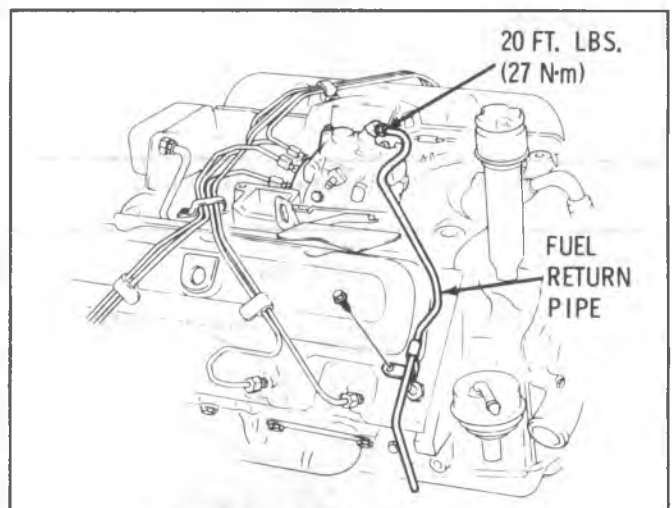

Fig. 6A6-28a--Fuel Return Lines (Calif.)
7. Remove lines to fuel filter, then remove fuel filter (Fig. 6A6-27).